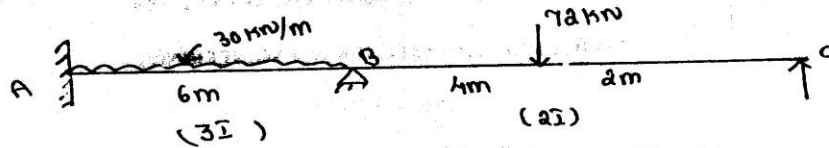

Figure-3
3. Analyse the continuous beam shown in figure-3 by strain energy method. (15)